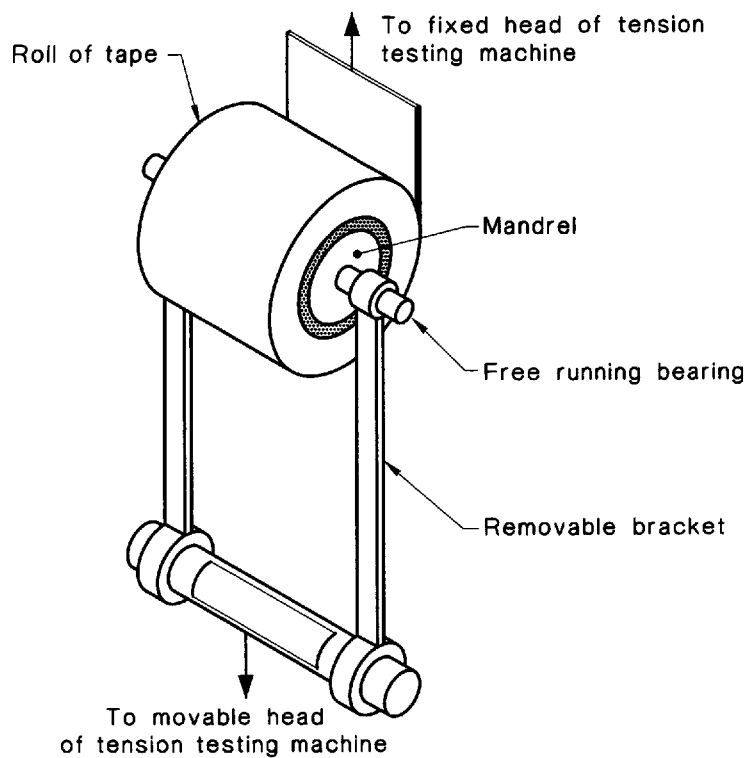

FIGURE 1 SUGGESTED UNWIND TEST JIG
- (b) *Unwind test jig* (see Figure 1).